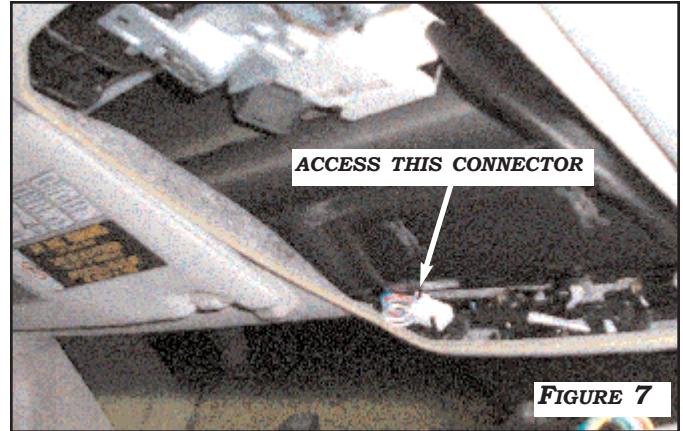

FIGURE 7
4. DISLodge THE WHITE 12-PIN VEHICLE CONNECTOR FROM THE HOLDING CLIPS SHOWN IN **FIGURE 7.**